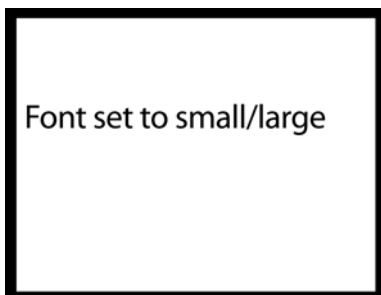

**Figure 35: Set Font Default Menu**
1. Select 5 on the keypad to change the default font size. The Set Font Default Menu appears (see Figure 35).